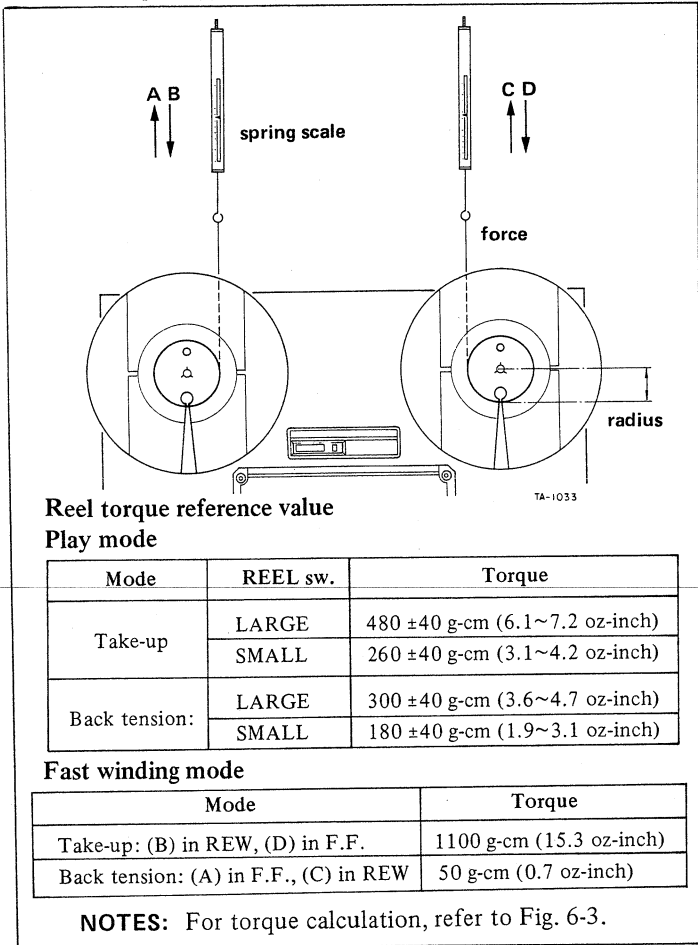

Fig. 6-4
2. See Fig. 6-4. Measure torques for each operating mode with the conditions specified in the chart.